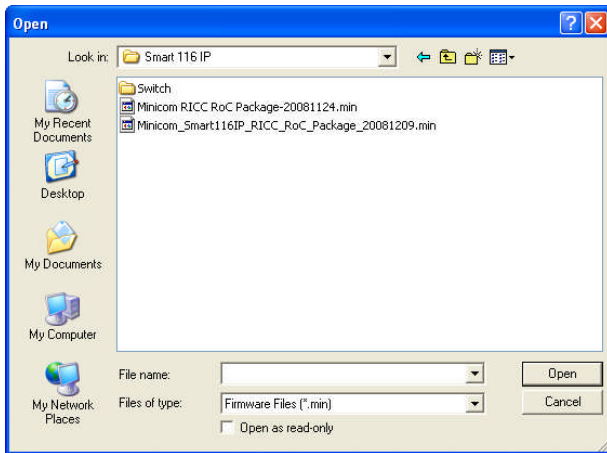

Figure 30 Open box
2. From the **File** menu, choose **Open**. The **Open** box appears. See Figure 30.